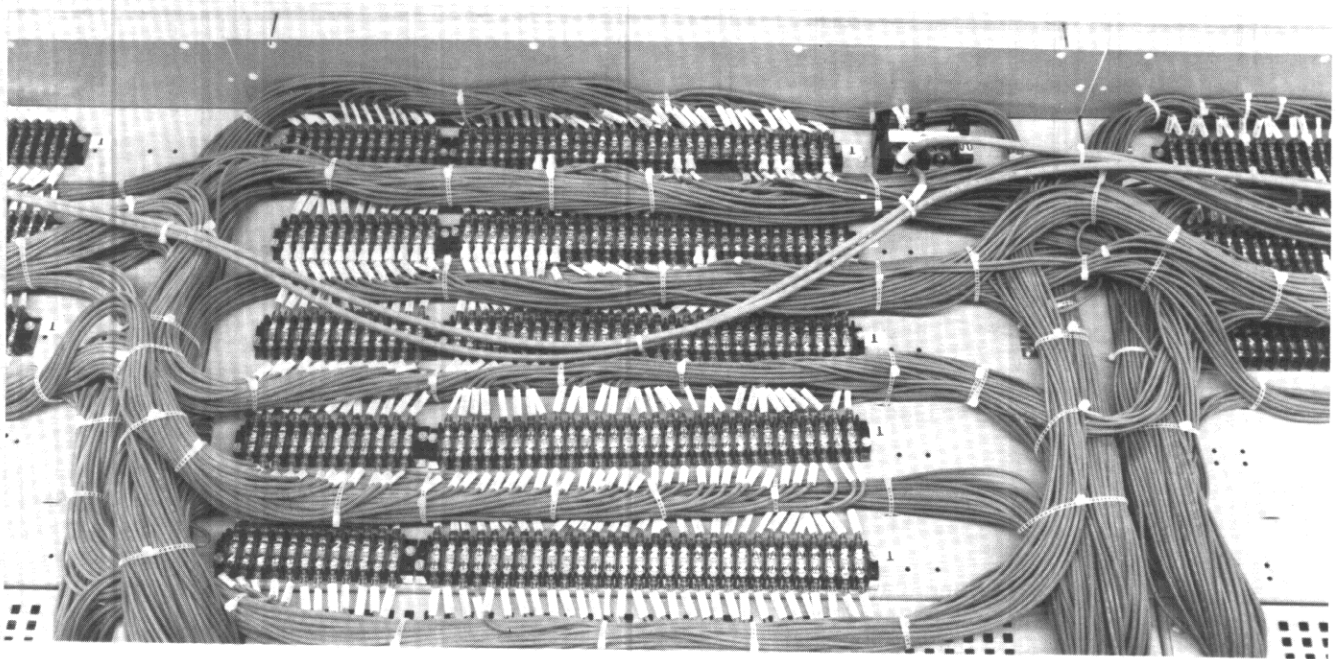

Fig. 4-15. Control wiring is located in the wiring trough on top of the equipment
6. **INTERCONNECT CONTROL WIRING**—Interconnection of control wiring across shipping splits is accomplished by connecting to terminal blocks located in the cross-section wiring trough on top of the equipment shown in Fig. 4-15.